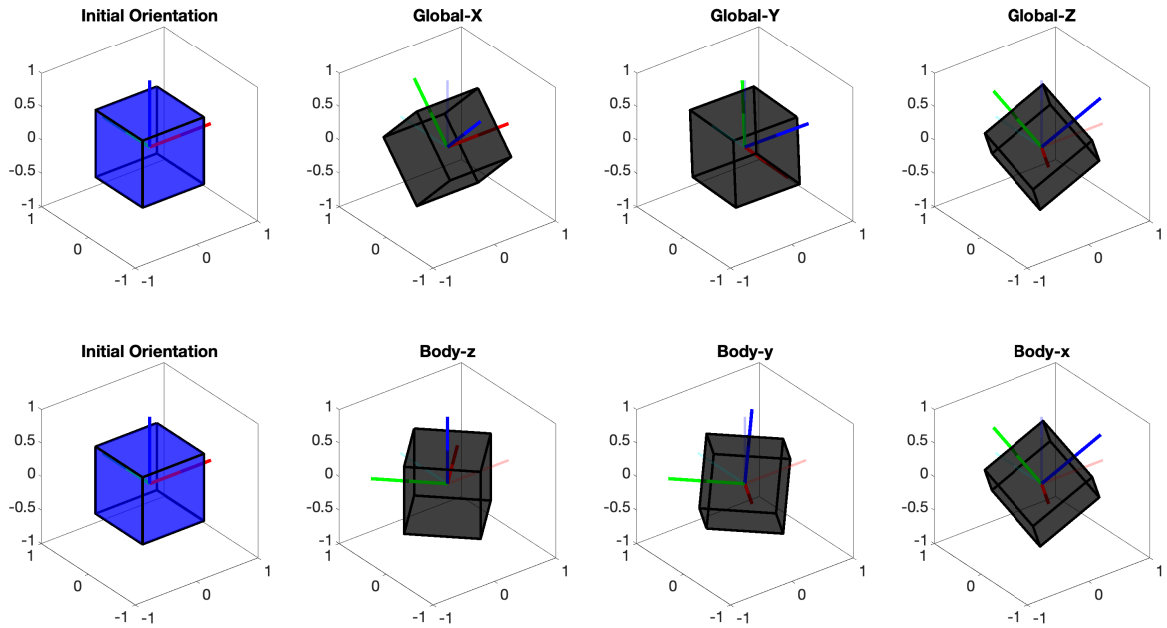

Figure 2: Solution plot for Problem 7(b).
- b. Show the equivalence of successive rotations in the Global and Body frames. First, using Global rotations, use successive 45° rotations in X - Y - Z . Starting with the initial configuration, show each successive rotation in it's own subplot. In a new row of subplots, do the same for the successive Body rotations z - y - x . The last subplot of each row should match. A sample figure in shown in Fig. 2.